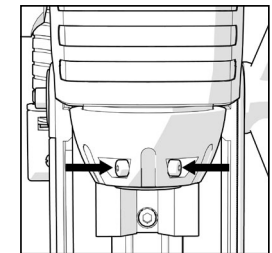

Fig. 7
- Check that the cutter securing set screws located in the arbor are not protruding into the spindle bore. (Fig.7)